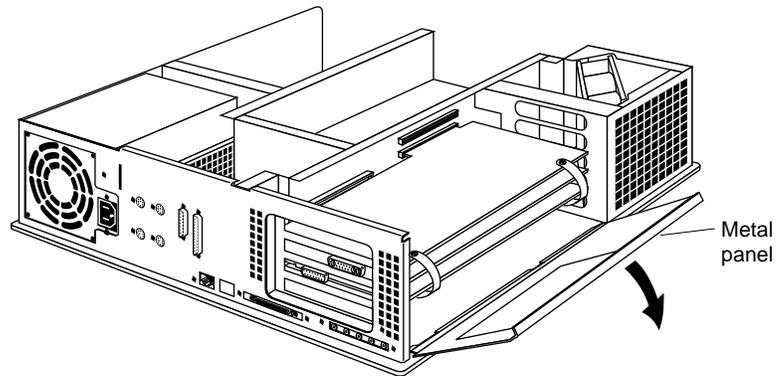

Figure 1-7 Opening the Metal Panel
1. Open the metal panel by pulling up and then lowering it. See Figure 1-7.